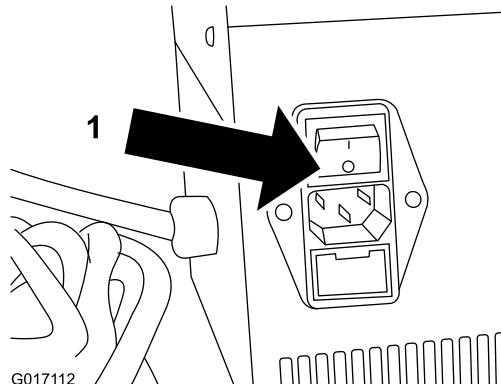

Figure 3
1. Make sure that the charger is turned off (Figure 3).
- 3. Turn the power to the eFlex off (Figure 3).